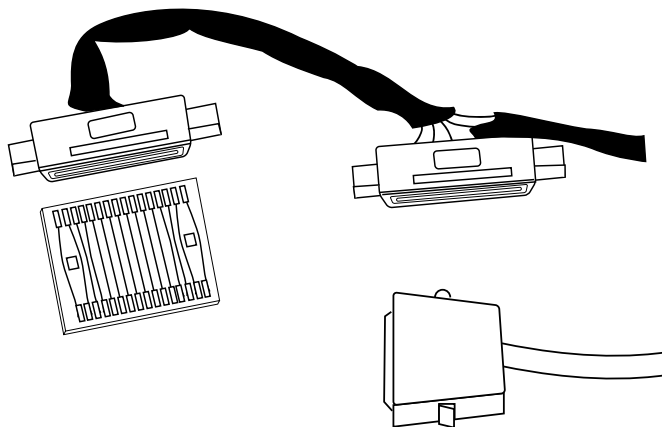

Figure 5-9. Cable
2. The cable to be installed is illustrated in **Figure 5-9**.